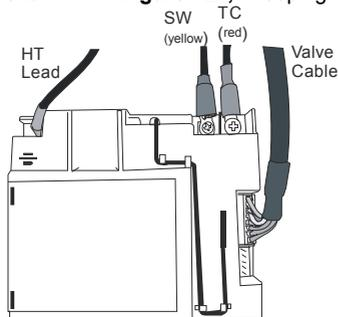

Figure 21
3. Feed the cables from the valve through the heat shield and connect to the receiver as shown in **Figure 21**, keeping the cables clear of the underside of the tray.